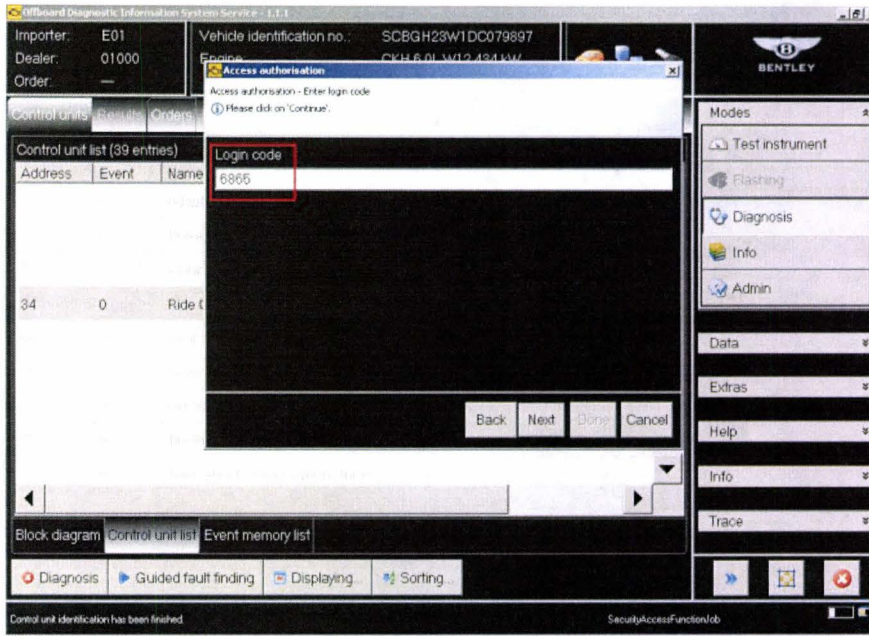

Figure 6
13. Enter Login code 6865 then *Next* (see Figure 6)